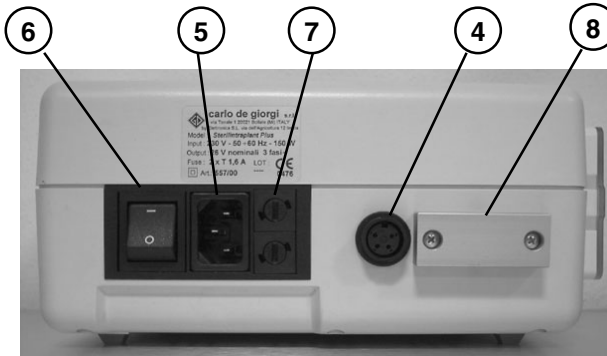

Fig. 2
With reference to Fig. 2, connect the footswitch to socket (4) on the rear panel by inserting the plug and twisting the locking ring; Insert the saline solution stand into upper socket (8) and screw it down, securing it by tightening the nut (using the supplied wrench) in the required position; now fit the saline solution bottle inside in the plastic cradle.
Finally, plug the power plug into the mains socket outlet, connecting the appliance side (see Fig. 2) to socket (5) located on the rear of the unit; the same figure shows the main power switch (6) and the two fuses (7). At this point attach the required surgical handpiece (not included) to the micromotor.